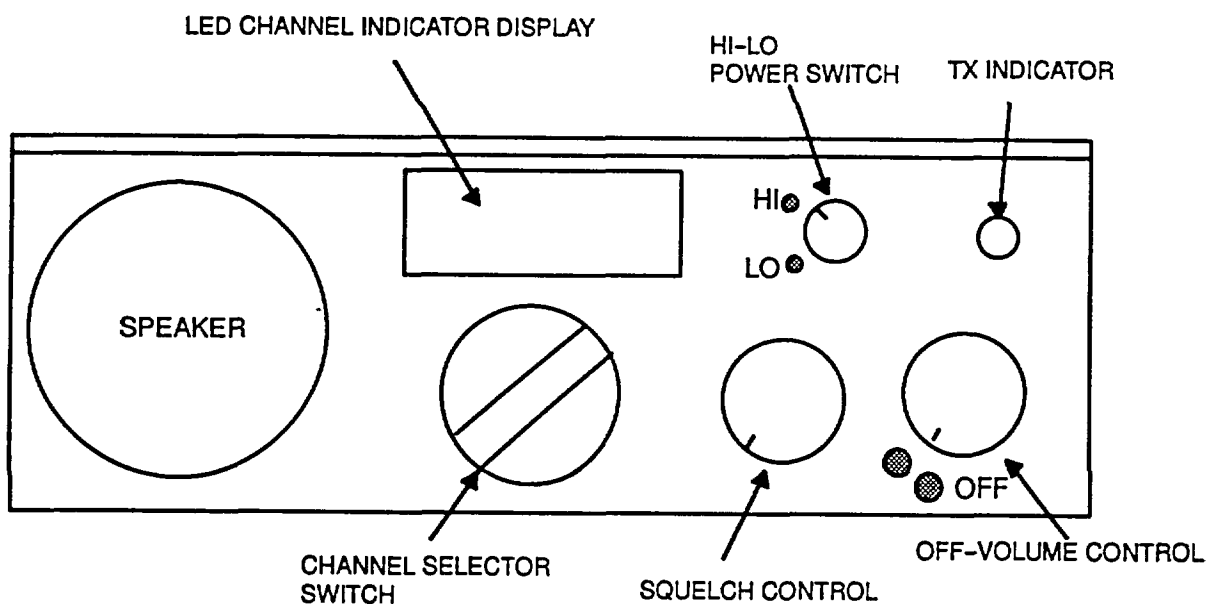

Figure 10-4. VHF/FM Marine Radio Control Panel
10-6.15 Marine band VHF/FM radio. This is mounted below window frame on starboard side of operator's position. Figure 10-4 shows controls and indicators for this radio.
10-9.1 Radio operations. VHF/FM commercial marine radio (Figure 10-4) operates in the 156.250-162.550 MHz frequency range, develops up to 25 watts of radio frequency (RF) power, receives 50 channels for operational and environmental announcements, and transmits on 46 channels. The workboat commercial marine radio is identical to the marine radio installed on the barge and described in Chapter 5 of this TM. When workboat is deployed in U.S. coastal waters and marine radio is not being used for two-way communications, monitor channel 16. The following operational procedures (Chapter 5) should be observed.
- (1) Verify that antenna lead and power lead are properly attached to radio set.
- (2) On marine radio power supply, set power switch to ON.